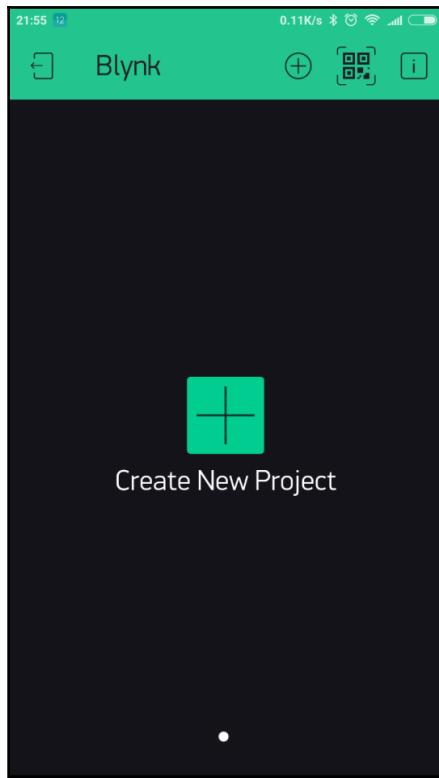

Figure 2.21: Creating a new project with Blynk
3. Create a new project by selecting **Create New Project** (*Figure 2.21*):